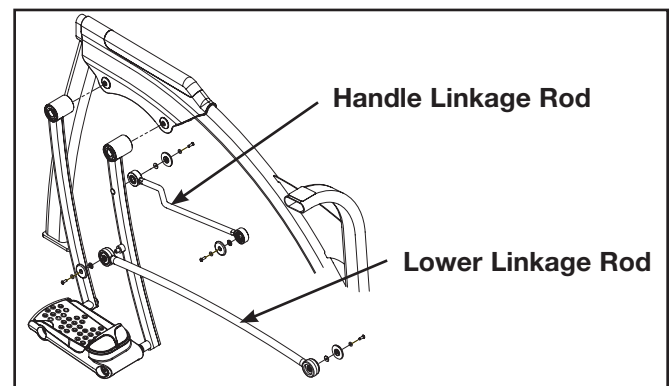

Figure 2
- A. Using a 3/16" Allen wrench, remove each SHCS (Socket Head Cap Screw), spacer, cap and washer securing both ends of the lower linkage rod. See Figure 2
- A. Using a 3/16" Allen wrench, remove each SHCS, spacer, cap and washer securing both ends of the linkage rod. See Figure 2.